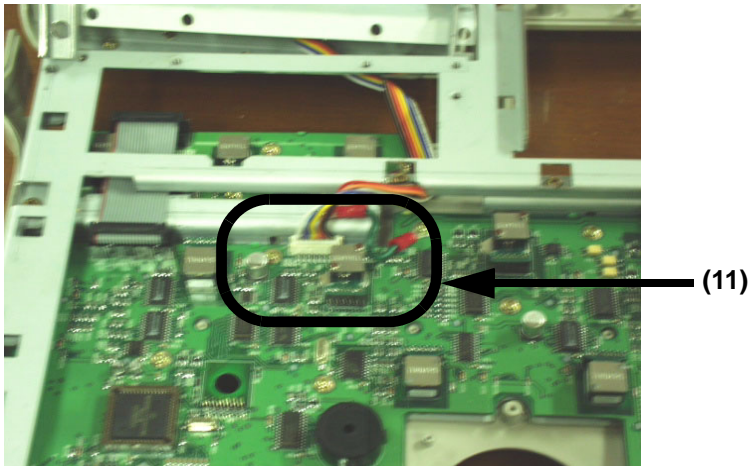

Figure 8-43    Disconnect one connector
- 2.) Disconnect one connector (11) from the main circuit board in the keyboard. Refer to Figure 8-43 on page 8-37.